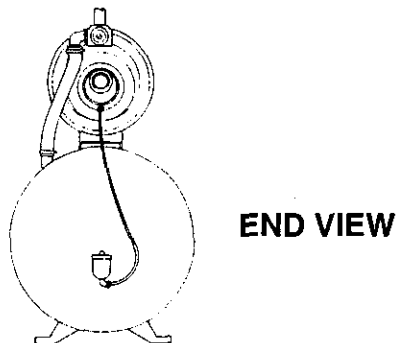

Figure 9
1. Connect the ground wire first as shown in Figure 9. The ground wire must be a solid copper wire at least as large as the power supply wires.